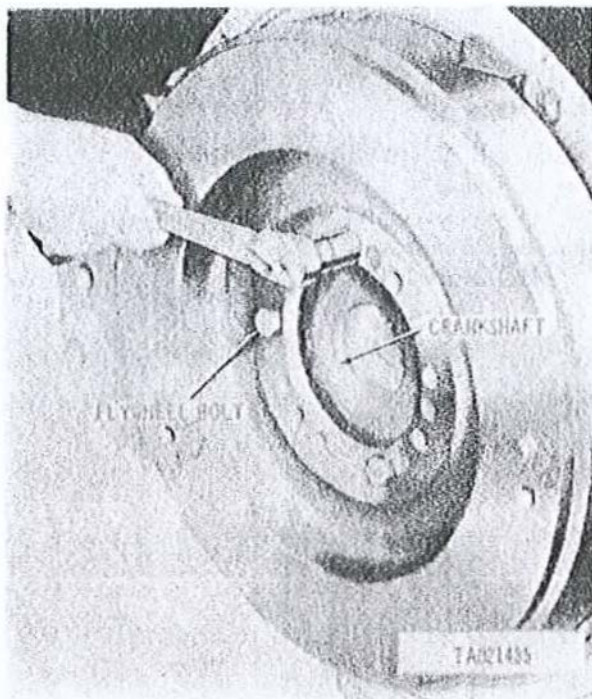

Figure 2-107. Installing flywheel and transmission drive spur gear on crankshaft.
(5) Position flywheel on crankshaft and draw flywheel to crankshaft by installing three transmission drive spur gear and flywheel bolts and alternately tighten about one turn at a time to draw flywheel on dowel pins without binding (fig. 2-107). Remove bolts and install transmission drive spur gear following the above procedure until both flywheel and transmission drive spur gear are properly aligned on dowel pins.